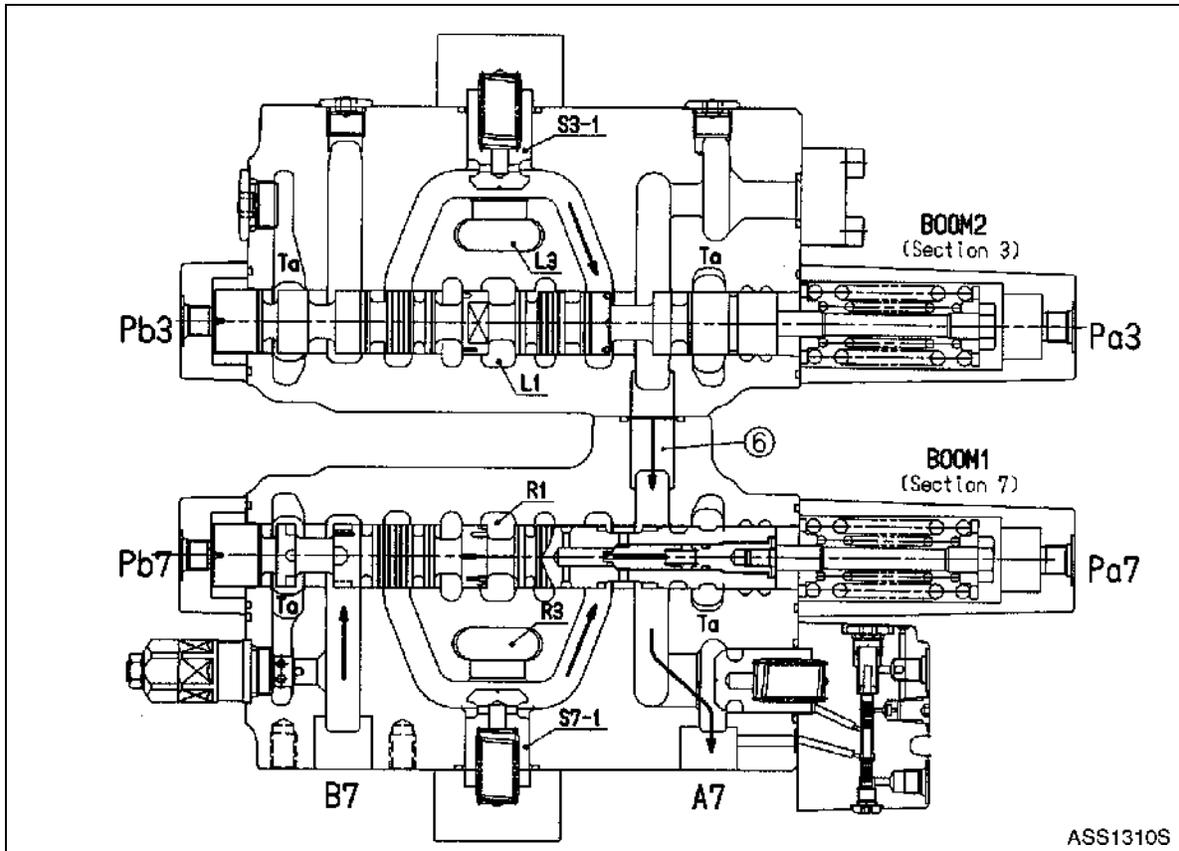

Figure 6 Boom Up
2. Boom up (2 speed junction) (Figure 6)